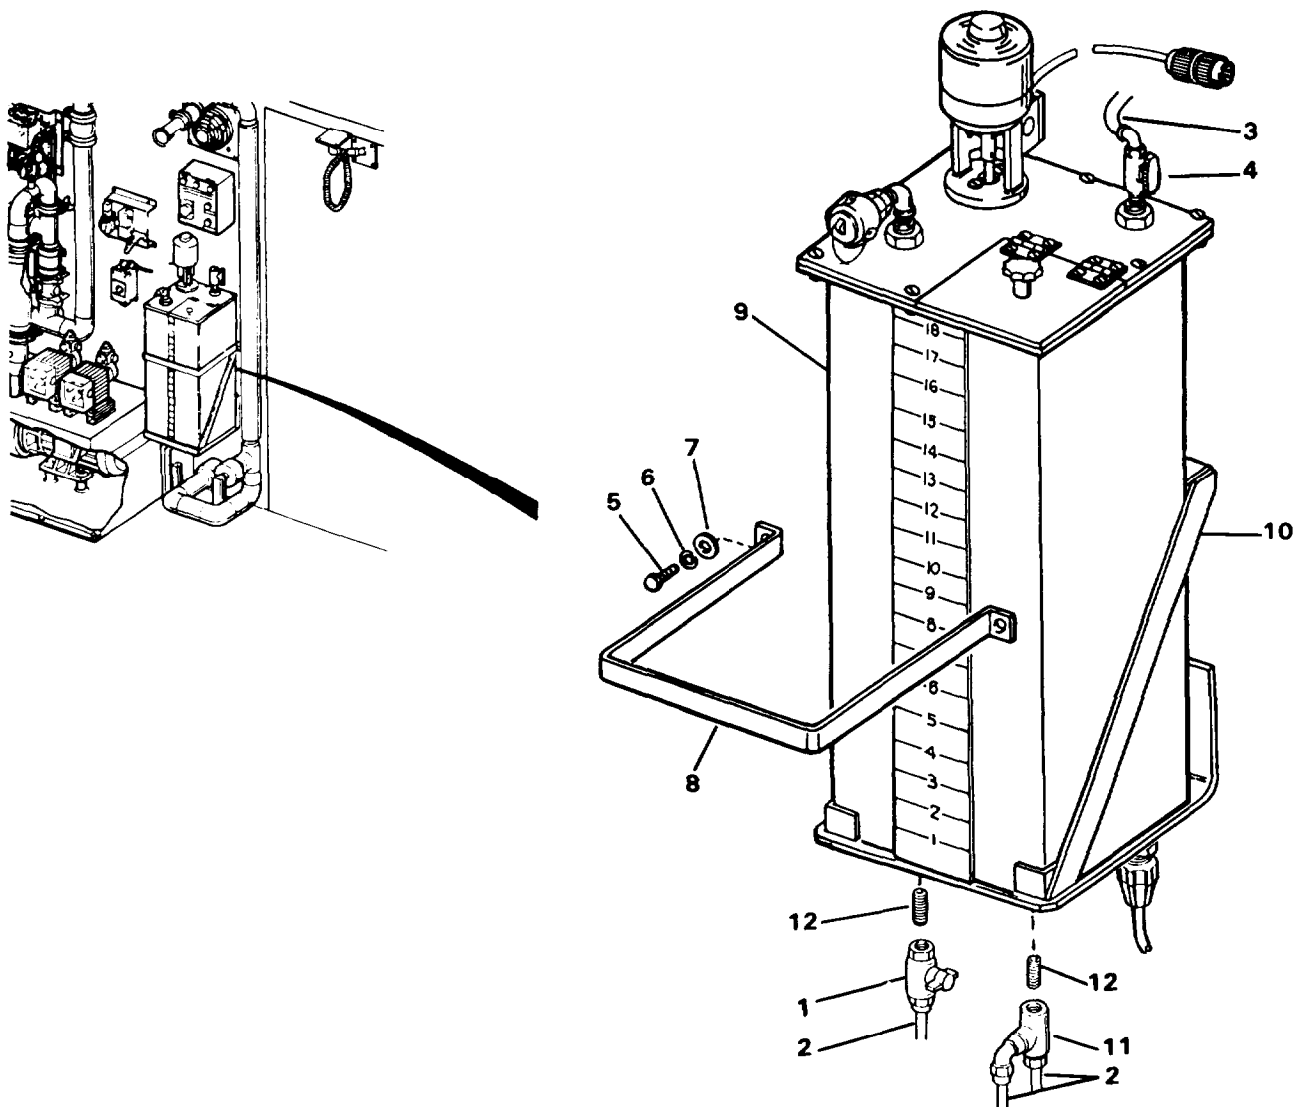

Figure 4-42. Hypochlorite Tank Assembly
- a. Open drain valve (1, Figure 4-42) at bottom of tank and drain tank.
- b. Tag and disconnect chemical tubing (2) from drain valve (1) and tee (11).
- c. Disconnect chemical tubing (3) from backwash hypochlorite pump vent valve (4).
- e. Loosen screw (5), lockwasher (6), and washer (7) and lift and remove bracket (8).